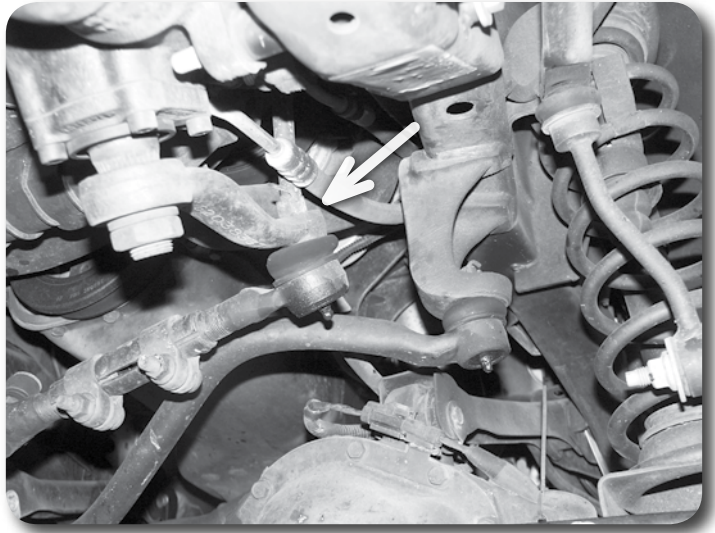

Figure 4
10. Remove the cotter pin and castellated nut from the drag link end at the pitman arm (Figure 4). Thread the nut back on a couple of turns. Strike the pitman arm near the drag link end to release the tapered seat. Take care not to damage the end. Remove the nut and the drag link from the pitman arm. Save hardware.